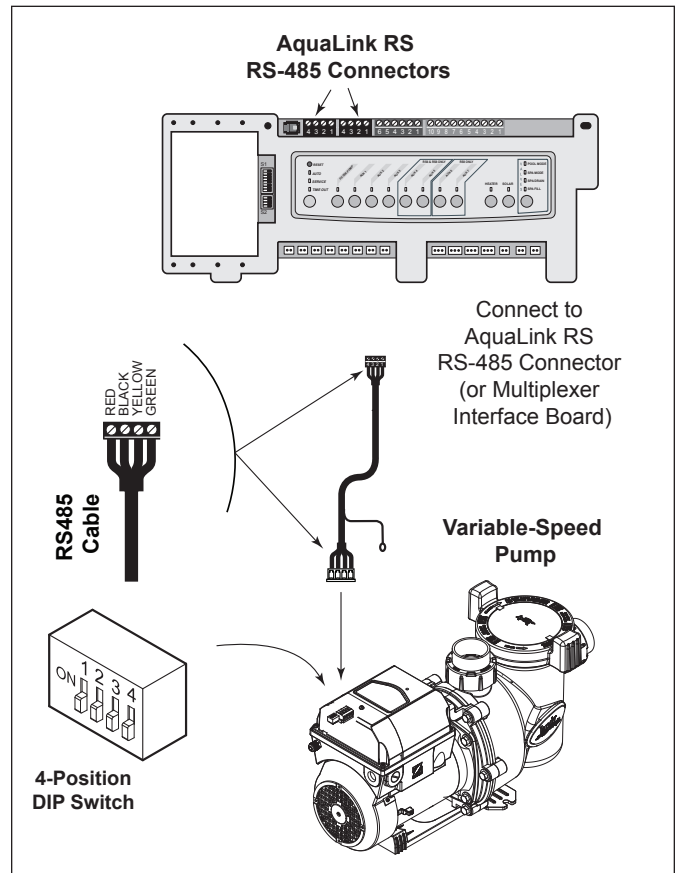

Figure 10. Wiring AquaLink RS Controller or AquaLink PDA to VS-FHP Pump
2. Slide dip switches 1 and 2 down, so they are in the OFF position. See Figure 10.
4. Connect the other end of the cable to an RS-485 connector on the AquaLink RS (or multiplexer interface board), matching wire colors with connector positions as follows: 1-red, 2-black, 3-yellow, and 4-green. The shielded wire for ground is not used at this end, any portion of shielded wire sticking out the cable must be trimmed and discard it. See Figure 10.